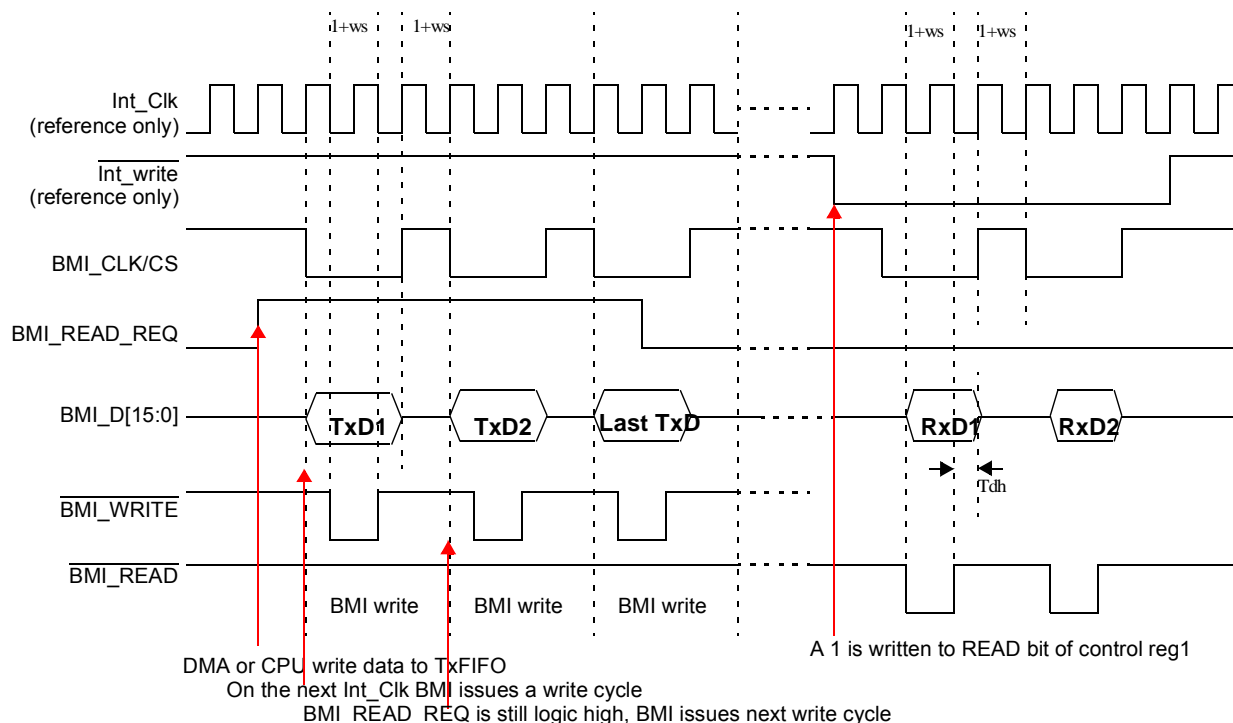

Figure 11. Memory Interface Master Mode, BMI Read/Write to External Slave Device Timing without Wait Signal (MMD_MODE_SEL=0, MASTER_MODE_SEL=1)
The $\overline{\text{WAIT}}$ control bit (BMICTRL1[29]) is used in this mode. When this bit is cleared (default), the $\overline{\text{BMI_WAIT}}$ signal is ignored and the CS cycle is terminated by Wait State (WS) control bits. Figure 11 shows the BMI timing when the $\overline{\text{WAIT}}$ bit is cleared.